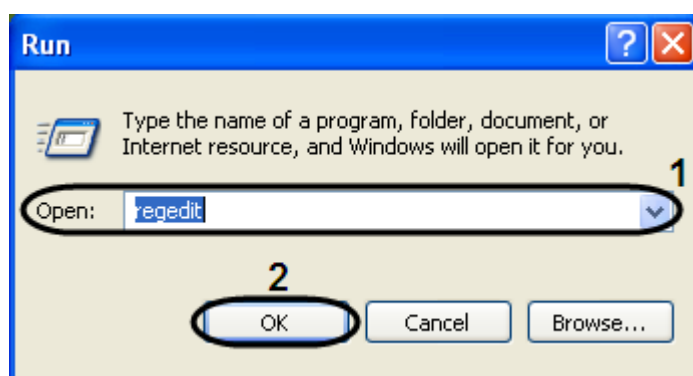

Fig. 9.3—1 Program run dialog window
1. Call for a dialog window Program launch or go to the Start menu and select Run or use the key combination «WIN»+«R» (Fig. 9.3—1).